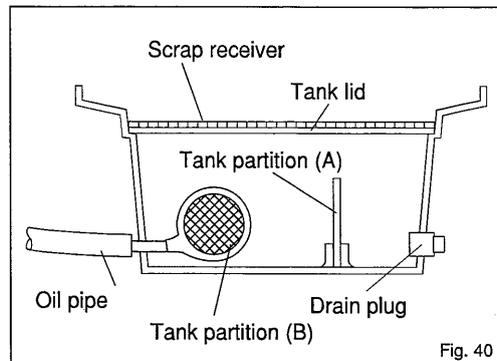

Fig. 40
3. Cleaning the Oil Tank (Fig. 40)